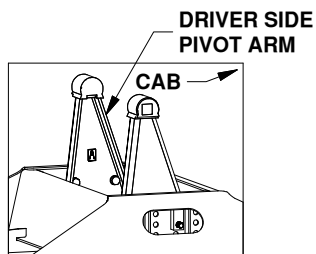
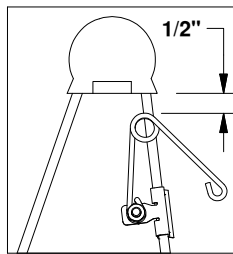

Figure E3:
Figure E4:
2. Locate the flange which will be closest to the truck cab on the driver side pivot arm, see figure E3. The clip should be placed so that when the springs coil is in the line with the edge of the arm there will be 1/2" of clearance between the bottom of the rubber bumper and the top of the spring, see figure E4. Drive the clip securely onto the flange with a hammer.